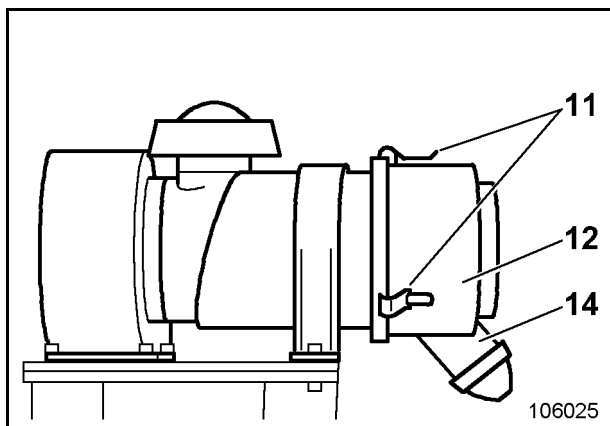

Fig. 3-55:
In the switchgear cabinet, the air is drawn in by a ventilator via the filter (Fig. 3-55:).
- ➔ Press dust trap (14, Fig. 3-55:) and hold until the dust trap is empty.
- ➔ Loosen clamps (11, Fig. 3-55:).
- ➔ Remove dust collector (12) and empty.
- ➔ Remove the dust collector (12, Fig. 3-55:).